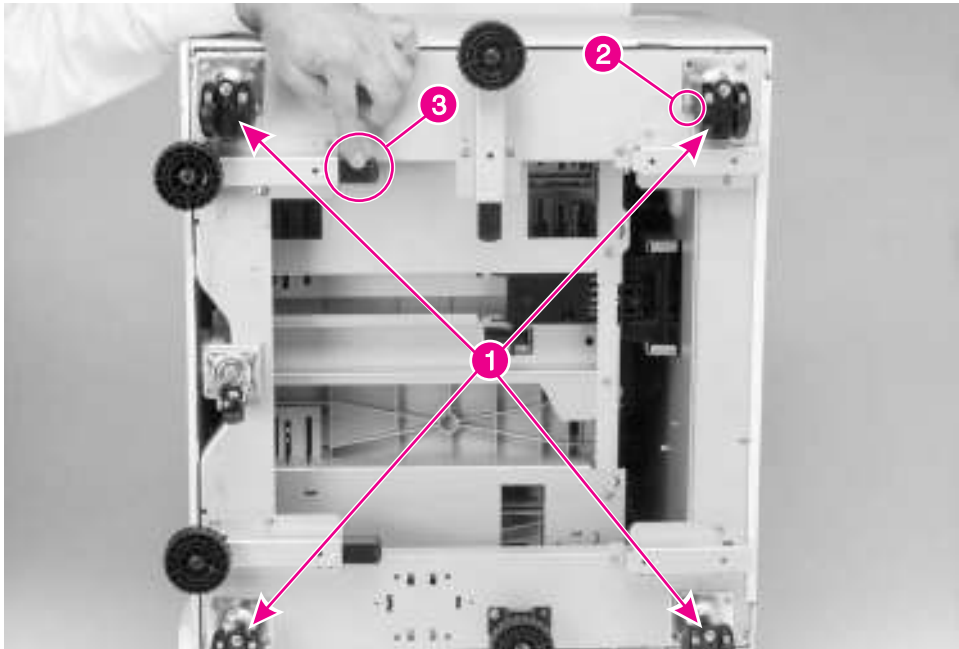

Figure 6-79 2000-sheet Input Tray Casters
- 3 Locate the 4 Casters, 1 on each corner of the chassis (Figure 6-79, callout 1).